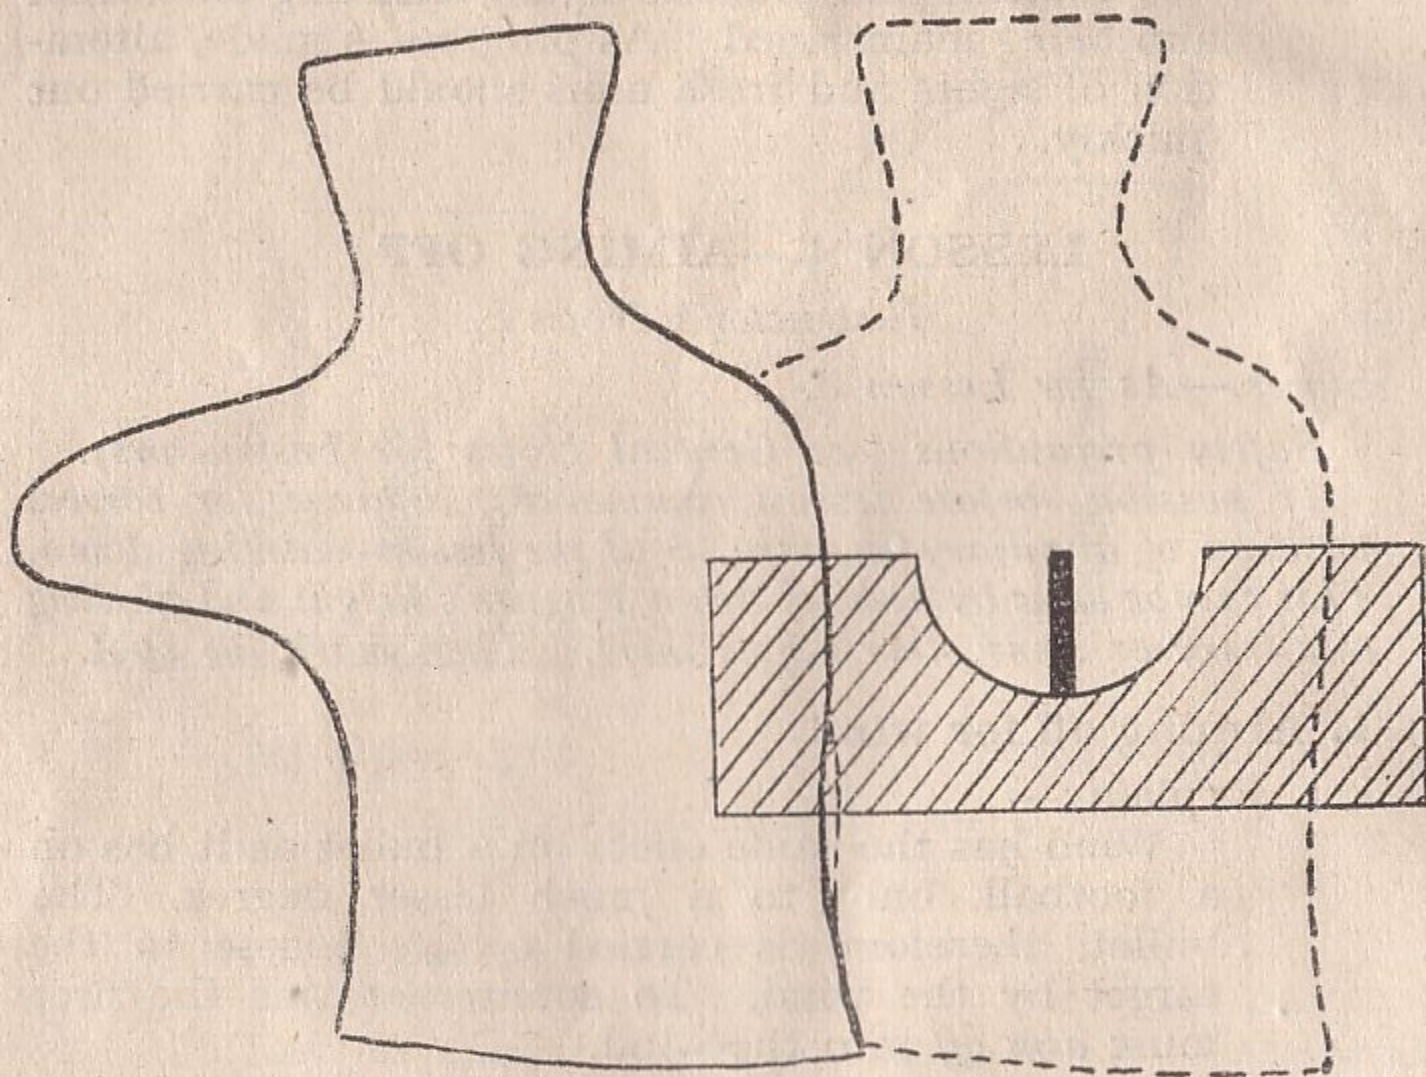

Fig. 4
2. Demonstrate what 1 man's width looks like by assistant at 200 or 300 yards, placing auxiliary figure to right or left of target. Instructor aims at auxiliary. Auxiliary removed. Squad view. Instructor points out how elevation is maintained by having half the target resting on the shoulders of the backsight and the foresight in line with the shoulders (show diagram Fig. 4).
3. Practise squad aiming off up to 2 men's widths at various ranges. Check with auxiliary (see Fig. 4).